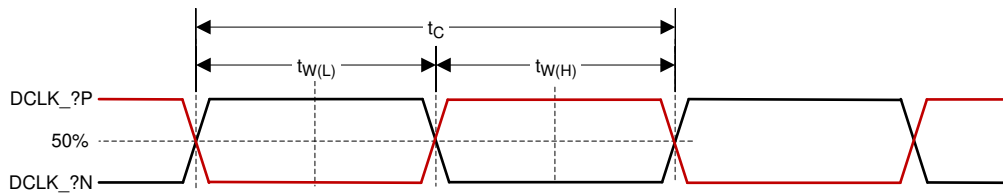

Figure 5-12. HSSI CLK Characteristics
- (7) See Figure 5-12 for pulse duration high and low for HSSI.